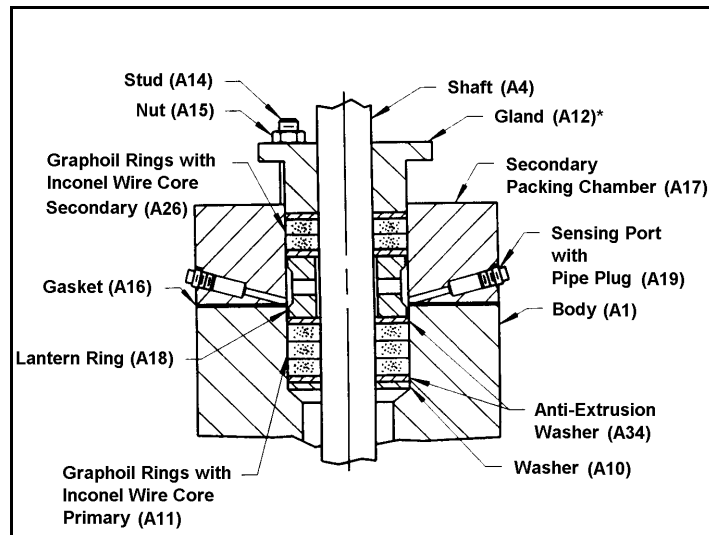

Figure 9—Packing Option G2D
- b. Place the primary (lower) set of new packing (A11) and anti-extrusion washers (A34) in the body, one ring at a time, as shown in Figure 9.
- f. Place the following components in the configuration shown in Figure 9: